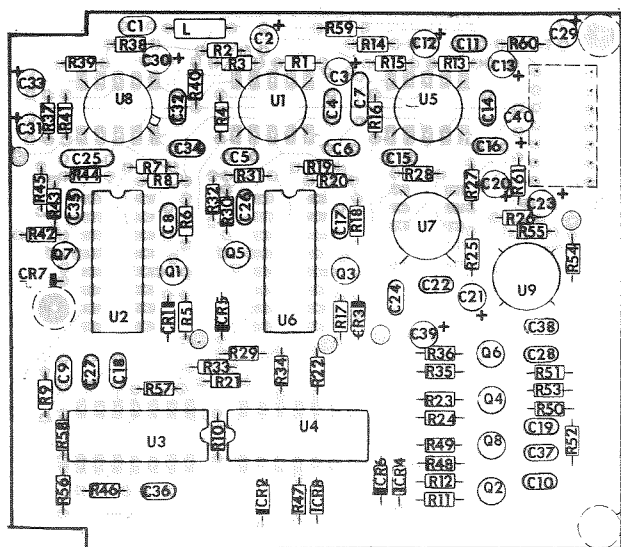

Figure 4-6. Processor PC Board, Marker Section
7. On Processor PC Board 640-MS-5121, connect scope probe to TP4 (Figure 4-6).
3. Connect scope probe to pins 8, 10 and 12 of the XA4A2 connector (Figure 4-6).